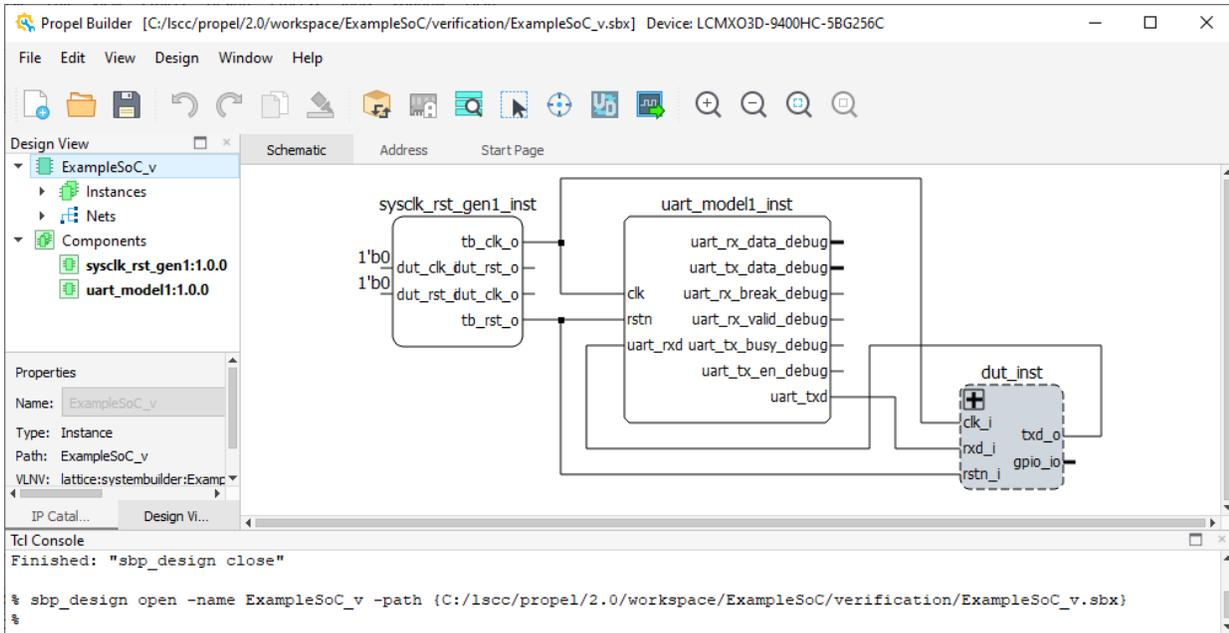

Figure 3.30. SoC Verification Project
2. Click the **Switch** icon  on the toolbar to switch between SoC design and SoC verification project (Figure 3.30).
3. After the SoC design is switched to a SoC verification project, click the **Generate** icon  to generate the simulation environment for OEM ModelSim. Click the **Launch Simulation** icon  (Figure 3.30).